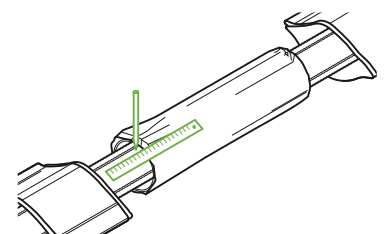

Fig. B12.2.3
3. Position the heat shrink sleeve over the middle of the joint area and mark its position on the outer casing of each pipe (Fig. B12.2.3).